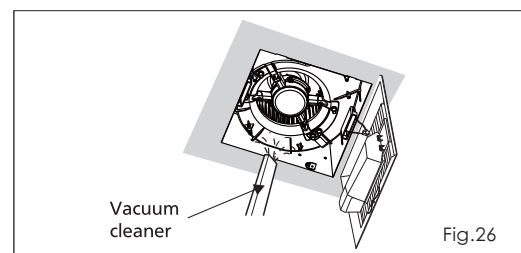

Fig.26
3. Remove dust and dirt from fan body using a vacuum cleaner. (Fig.26)